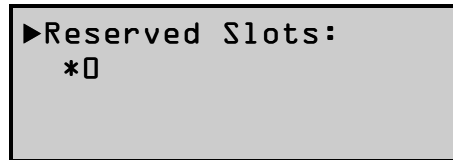

Figure 2-9 Set Reserved Slots Menu
2. Scroll down on the Configure Menu until you see 'Set Reserved Slots,' and select that option. The screen shown in Figure 2-9 appears.